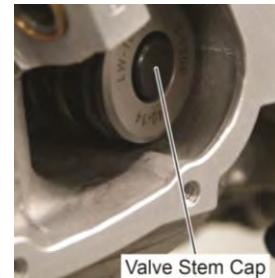

Figure 14
- (1) Remove the cylinder from the engine per the “Cylinder Removal” procedure in this chapter.
- (2) Remove the exhaust valve stem cap (Figure 14).
- (1) Apply a coating of Castrol® Contractor Special NLGI#1 to the exhaust valve stem (or other lubricant identified in the latest revision of Service Instruction No. SI-1059.)
- (2) Install a serviceable exhaust valve in the valve guide, through the cylinder barrel.
- (3) Install the valve stem key, valve spring seats, and valve springs.
- (4) Install the valve stem cap (Figure 14) on the exhaust valve.
- (5) Install the cylinder on the engine per the “Cylinder Installation” procedure in this chapter.